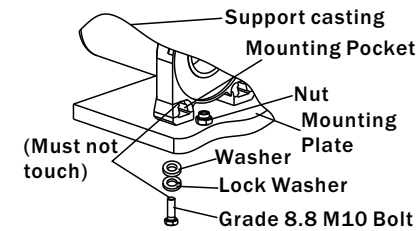

Figure 4
- The winch should be secured to the mounting with Grade 8.8 M10 bolts and spring washers provided (see Figure 4).